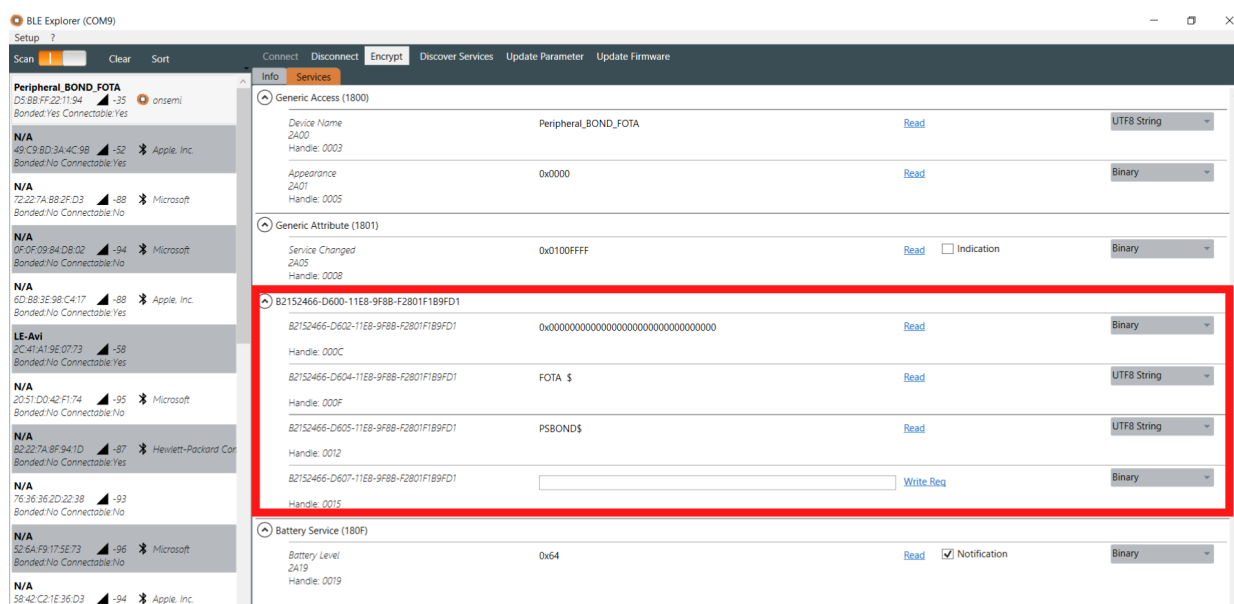

Figure 19. DFU Service in Attribute Database
13. Connect and discover services using the RSL10 Bluetooth Low Energy Explorer, and you can see that the DFU service is added in the attribute database, as shown in the figure "DFU Service in Attribute Database" (Figure 19):